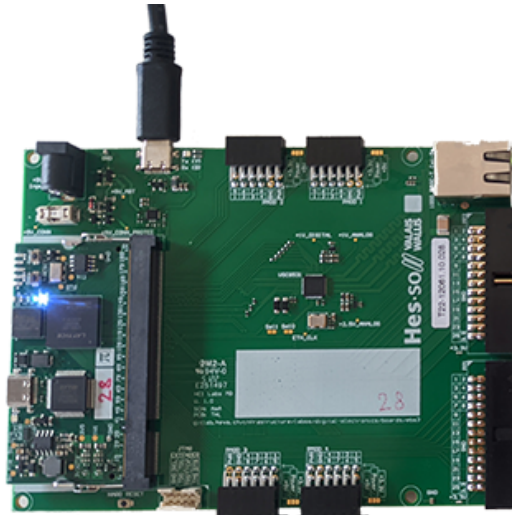

Figure 7: EBS3 FPGA Board [\[3\]](#)
- A FPGA development board, see figure Figure 7.